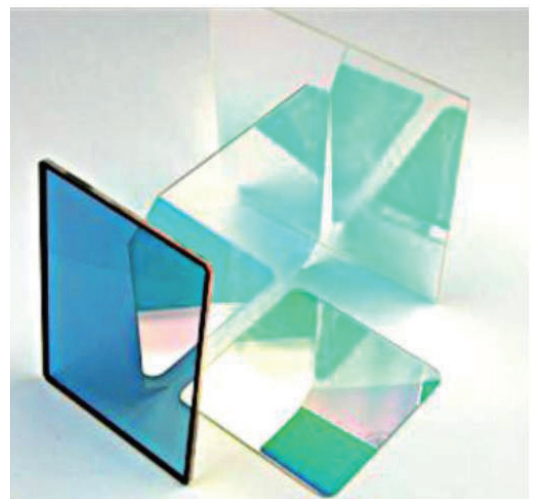

Figure 2: NVIS Filter Lens
- (1) Attaching a detachable NVIS filter lens (Figure 2). The drawback is that manually switching between day and night modes is time-consuming, which is not conducive to the high response rates required in military and navigation applications. Additionally, there is a risk of losing or damaging the lens.